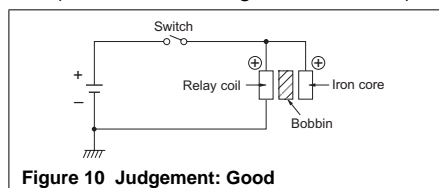

Figure 10 Judgement: Good
- When a grounding is not required, connect the ground terminal to the ⊕ side of the coil. (Refer to Figure 10) (NF and NR with ground terminal)